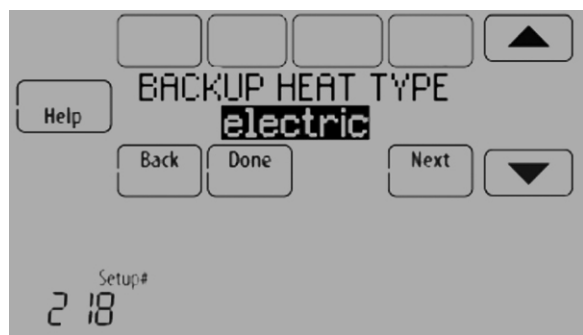

Fig. 175.
7. Select the Backup Heat Type. See Fig. 175.